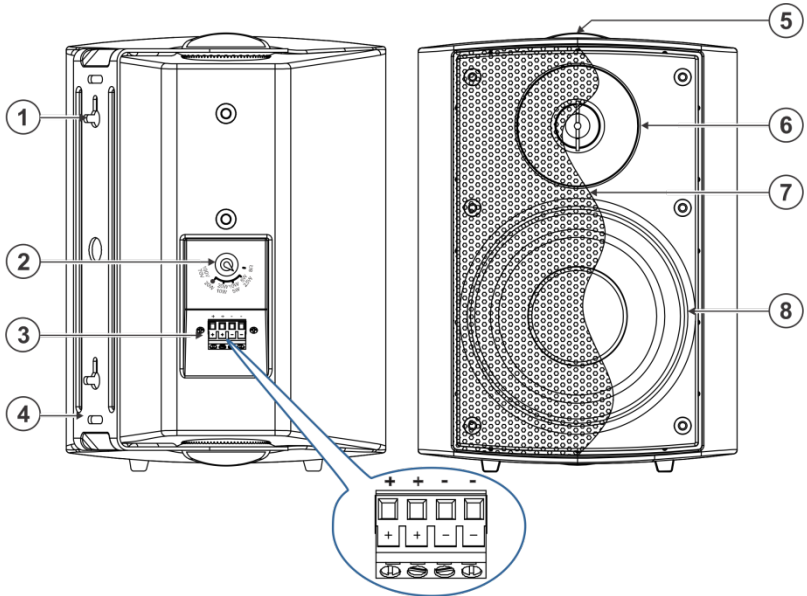

Figure 1: Yarden 5-O
5. Connect one of the + and – terminal block pairs on the rear panel (see Figure 1) by connecting the: